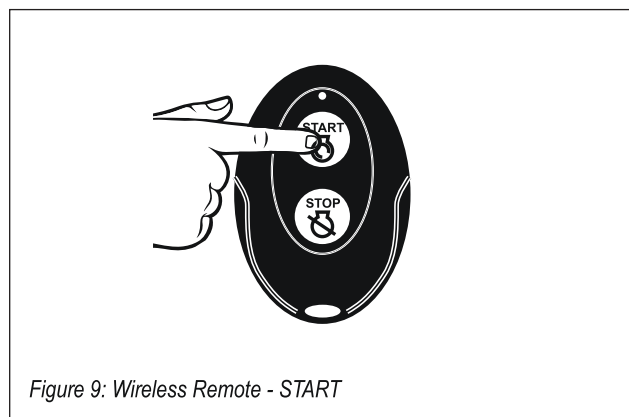

Figure 9: Wireless Remote - START
4. Push the START icon on the wireless remote. (see Figure 9).